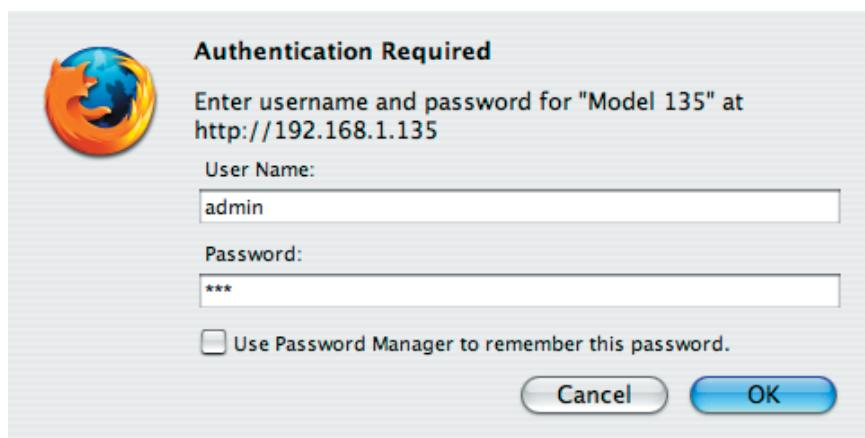

Figure 3-7. Model 135 Enter Name and Password Screen
Step 6: Open your browser and enter the following default URL address <http://192.168.1.135> to access the Model 135 Site Monitor. An Authentication Required screen should appear requesting a User Name and Password. Enter the default User Name of **admin** and the default Password of **135** (Figure 3-7). Select/click OK.